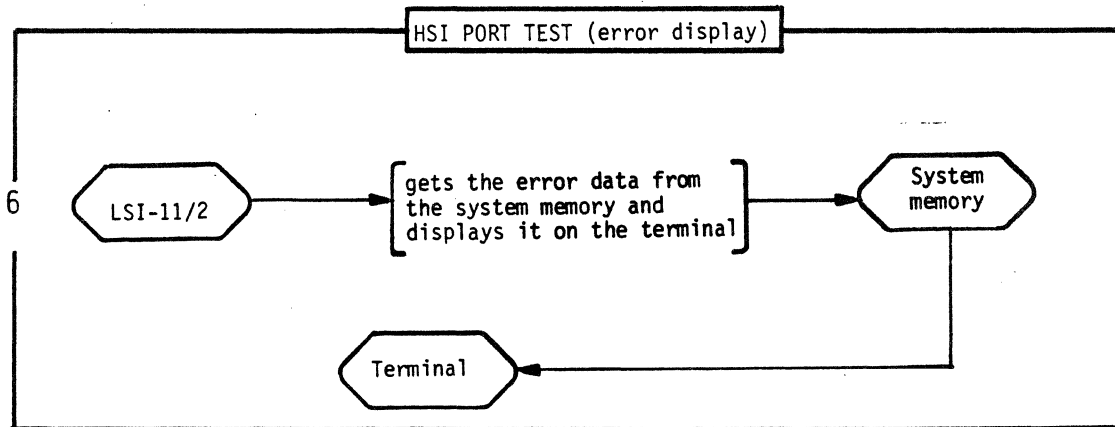

Fig. 4-22. HSI test error display.
6. RETRIEVE ERRORS (Fig. 4-22). If the HSI PORT test is executed alone, part 6 retrieves the error data from the system memory and displays it on the ODT terminal. If, however, the test is executed within the ALL series, the error information is displayed at the end of the series.